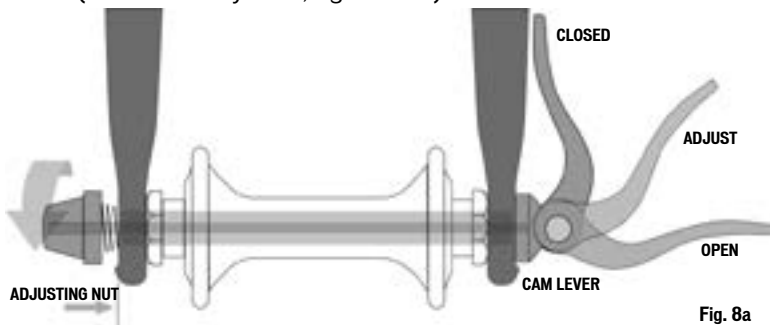
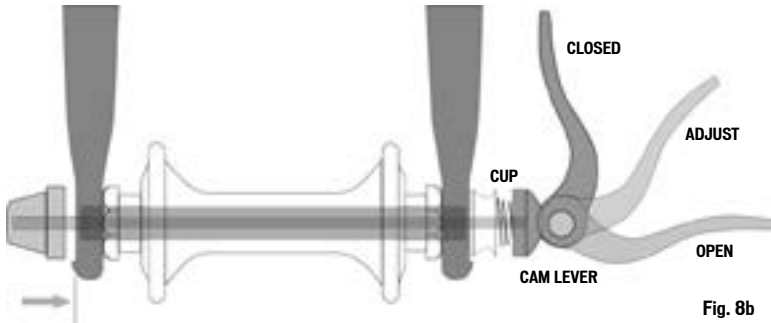
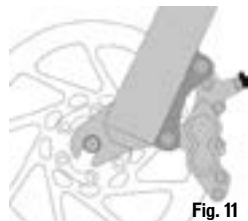
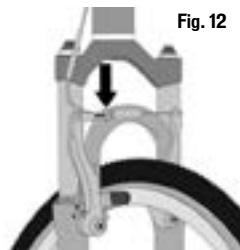

Fig. 8a
Fig. 8b
Fig. 11
Fig. 12
There are currently two types of over-center cam wheel retention mechanisms: the traditional over-center cam (fig. 8a) and the cam-and-cup system (fig. 8b). Both use an over-center cam action to clamp the bike's wheel in place. Your bicycle may have a cam-and-cup front wheel retention system and a traditional rear wheel cam action system.
a. Adjusting the traditional cam action mechanism (fig. 8a)
b. Adjusting the cam-and-cup mechanism (fig. 8b)
(1) If your bike has rim brakes, disengage the brake's quick-release mechanism to increase the clearance between the tire and the brake pads (See Section 4.C fig. 11 through 15).
(2) If your bike has cam action front wheel retention, move the cam lever from the locked or CLOSED position to the OPEN position (figs. 8a & b). If your bike has through bolt or bolt-on front wheel retention, loosen the fastener(s) a few turns counter-clockwise using an appropriate wrench, lock key or the integral lever.
(3) If your front fork has a clip-on type secondary retention device, disengage it and go to step (4). If your front fork has an integral secondary retention device, and a traditional cam action system (fig. 8a) loosen the tension adjusting nut enough to allow removing the wheel from the dropouts. If your front wheel uses a cam-and-cup system, (fig. 8b) squeeze the cup and cam lever together while removing the wheel. No rotation of any part is necessary with the cam-and-cup system.
(4) You may need to tap the top of the wheel with the palm of your hand to release the wheel from the front fork.
(1) If your bike has cam action front wheel retention, move the cam lever so that it curves away from the wheel (fig. 8b). This is the OPEN position. If your bike has through bolt or bolt-on front wheel retention, go to the next step.
(2) With the steering fork facing forward, insert the wheel between the fork blades so that the axle seats firmly at the top of the fork dropouts. The cam lever, if there is one, should be on rider's left side of the bicycle (fig. 8a & b). If your bike has a clip-on type secondary retention device, engage it.
(3) If you have a traditional cam action mechanism: holding the cam lever in the ADJUST position with your right hand, tighten the tension adjusting nut with your left hand until it is finger tight against the fork dropout (fig. 8a). If you have a cam-and-cup system: the nut and cup (fig. 8b) will have snapped into the recessed area of the fork dropouts and no adjustment should be required.
(4) While pushing the wheel firmly to the top of the slots in the fork dropouts, and at the same time centering the wheel rim in the fork:
(a) With a cam action system, move the cam lever upwards and swing it into the CLOSED position (fig. 8a & b). The lever should now be parallel to the fork blade and curved toward the wheel. To apply enough clamping force, you should have to wrap your fingers around the fork blade for leverage, and the lever should leave a clear imprint in the palm of your hand.
(2) If your bike has rim brakes, disengage the brake's quick-release mechanism to increase the clearance between the wheel rim and the brake pads (see Section 4.C, figs. 11 through 15).
(3) On a derailleur gear system, pull the derailleur body back with your right hand.
(4) With a cam action mechanism, move the quick-release lever to the OPEN position (fig. 8b). With a through bolt or bolt on mechanism, loosen the fastener(s) with an appropriate wrench, lock lever or integral lever; then push the wheel forward far enough to be able to remove the chain from the rear sprocket.
(5) Lift the rear wheel off the ground a few inches and remove it from the rear dropouts.
Some bikes are equipped with a cam action seat post binder. The seat post cam action binder works exactly like the traditional wheel cam action fastener (Section 4.A.2) While a cam action binder looks like a long bolt with a lever on one end and a nut on the other, the binder uses an over-center cam action to firmly clamp the seat post (see fig. 8a).
3. Some bicycle brakes, such as disc brakes (fig. 11) and linear-pull brakes (fig. 12), are extremely powerful. Take extra care in becoming familiar with these brakes and exercise particular care when using them.
Most rim brakes have some form of quick-release mechanism to allow the brake pads to clear the tire when a wheel is removed or reinstalled. When the brake quick release is in the open position, the brakes are inoperative. Ask your dealer to make sure that you understand the way the brake quick release works on your bike (see figs. 12, 13, 14 & 15) and check each time to make sure both brakes work correctly before you get on the bike.